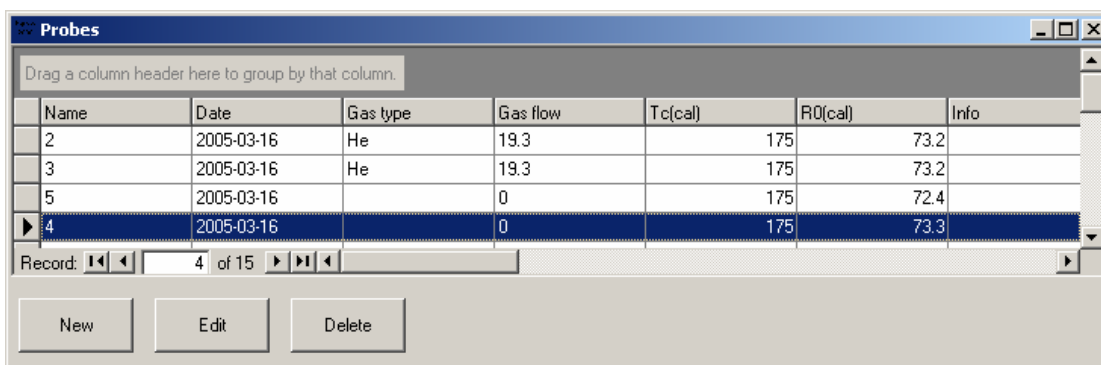

Figure 4-2. Probes window.
3. Select New in the Probes window in order to open the Calibration window with a new probe file, see Figure 4-2.
3. Select 'New' in the Probes window in order to open the Calibration window with a new probe file, see Figure 4-2.